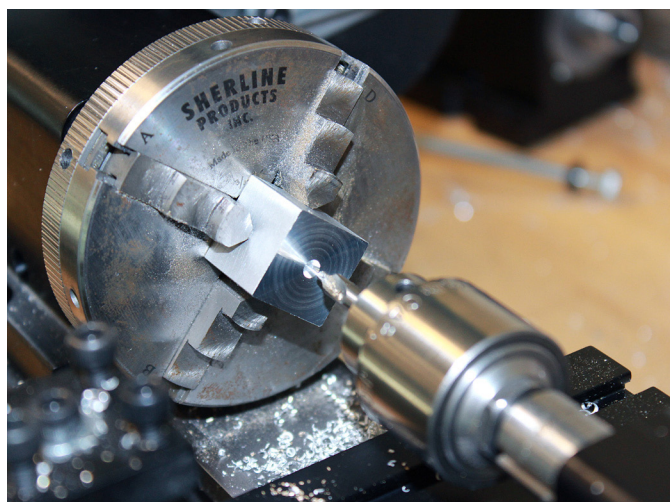

FIGURE 2—Center drilling the first side.
1. Center drill and drill the 1/8" hole through the part from three sides. (See Figures 2 and 3.)